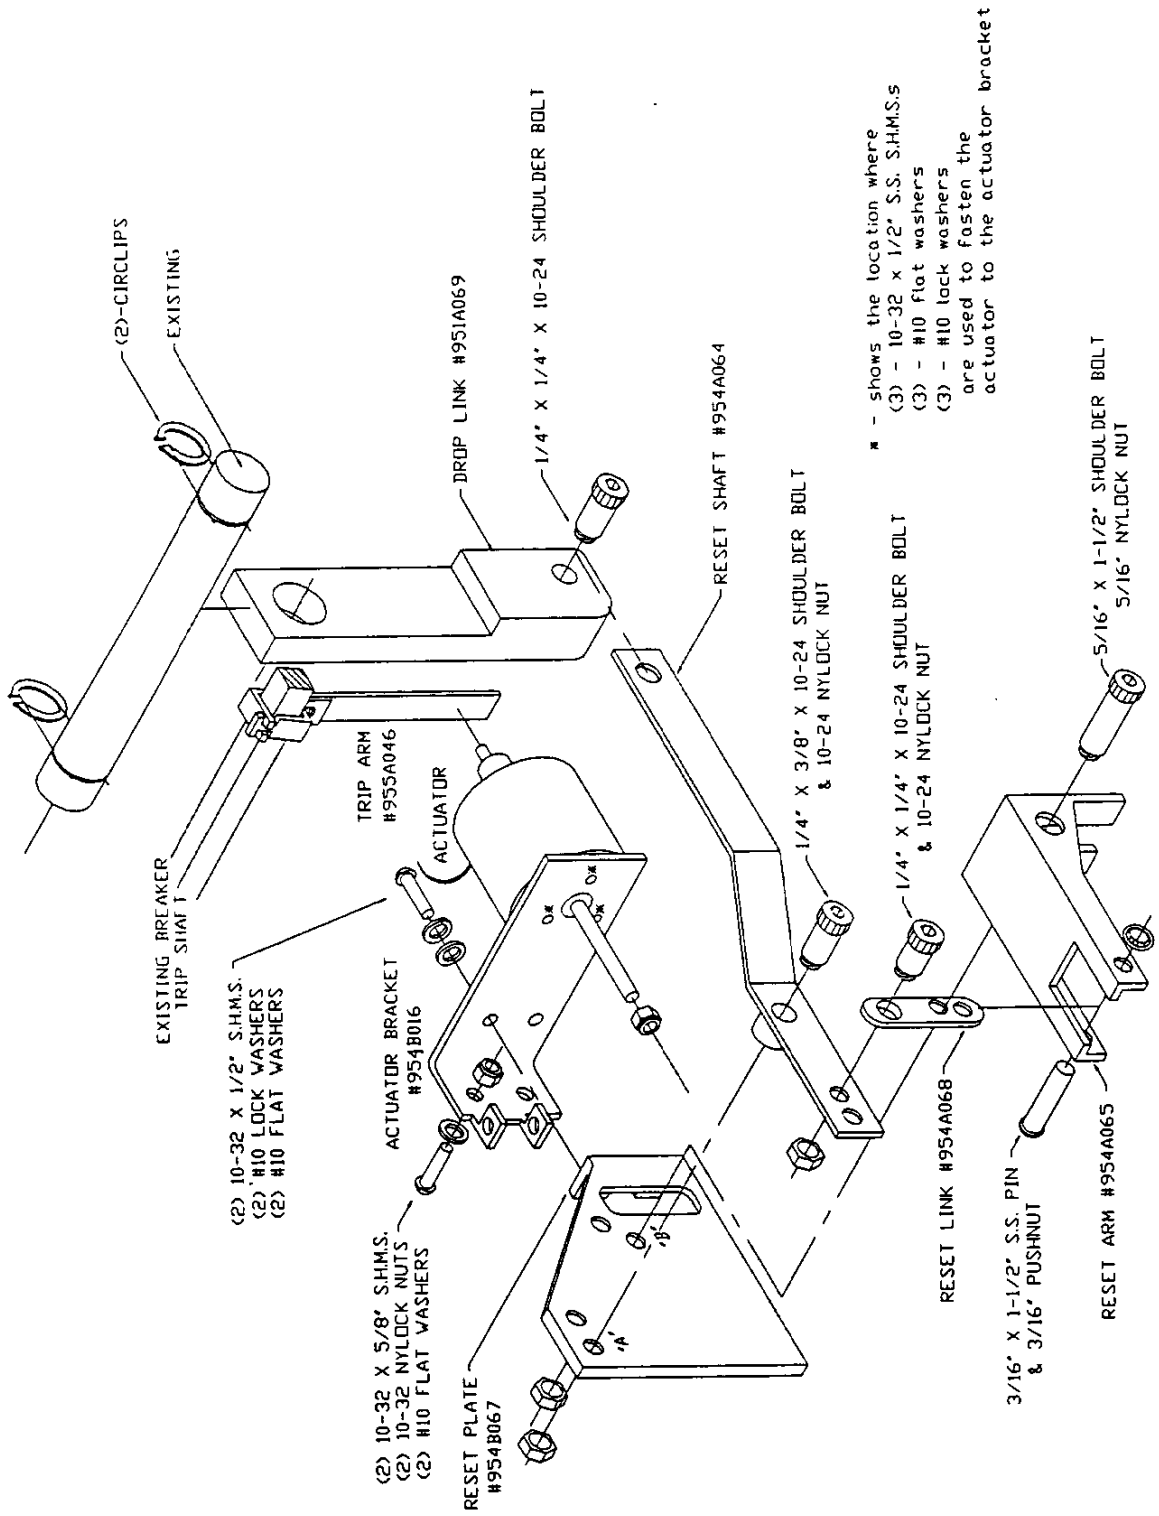

Figure 2-11
3. Install the actuator to the actuator bracket using the 10-32 x 1/2" hardware supplied with the actuator and install the reset plate to the actuator bracket per figure 2-11.
7. Install the drop link to the 1/2" round shaft used as the main spring anchor point. This will be located directly above the actuator when it is installed on the breaker. First remove the main contact springs from the breaker. Then remove one circlip from the end of the shaft indexed to the inside of the breaker. Withdraw the shaft from the cradle until it is clear of the cradle. The drop link may be moved to a position directly against the inside edge of the cradle. It must be installed with the pivot point indexed toward the inside of the breaker. See fig 2-11. The shaft may now be reinstalled.